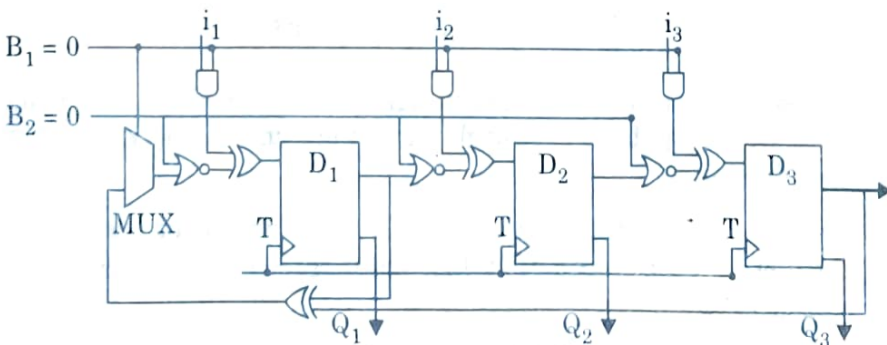

Fig. 5.16.4. Built-in-test-(BILBO) scan path mode.
4. In the test 1 mode, $B_1 = B_2 = 0$ and the storage elements are configured as a scan path, all storage elements being connected as a serial shift register as shown in Fig. 5.16.4.